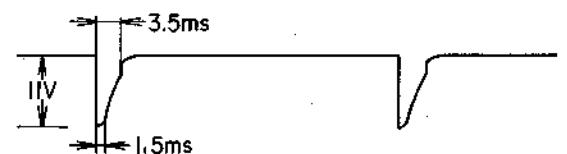

Fig. 10
- (2) Connect Oscilloscope to Test Point TP-1. At Playback Mode, confirm that the waveform at TP-1 is as shown in Fig. 10.